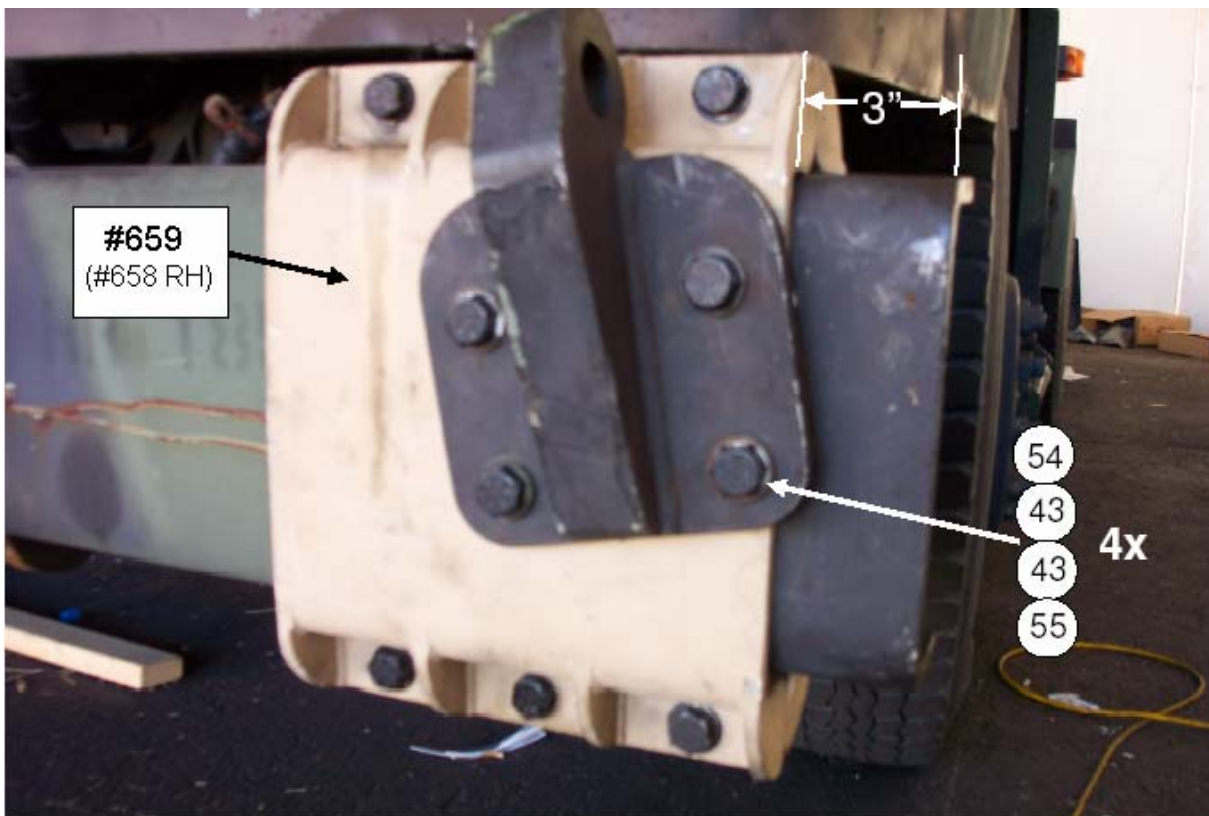

Figure 7-6. #659 Installation (#658 RH).
2. Re-attach the Sling/Lift bracket with the #659 part sandwiched between it and the bumper using four 5/8" x 2-3/4" bolts, the eight existing 5/8" flat washers, and four 5/8 locknuts. Torque to 230 Nm (170 lb-ft). Note: Thread-locking compound must be used on these fasteners (See Figure 7-6).
Installation steps of the Right-Hand side are identical to the Left-Hand side using the parts in 7.4.1 and Figures 7-6 thru 7-9 as reference.